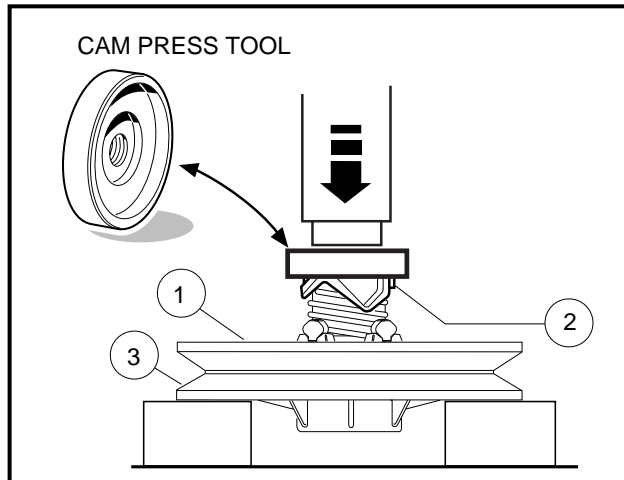

Figure 17-19 Cam Press Tool
2. Slide the moveable face assembly (7) onto the fixed face shaft (8).
3. Place the end of the spring (5) into the hole in the moveable face assembly.
4. Install the key (3) into the keyway of the fixed face assembly (8) shaft.
5. Holding the cam (4) in position for assembly on the shaft, install the other end of the spring (5) into the center spring hole of the cam. Rotate the cam until the keyway is aligned with the key (3) on the fixed face assembly, and then start the cam onto the shaft approximately 1/4 to 3/8 inch (6.3 to 9.5 mm).
6. Place the clutch assembly in a press and position the cam press tool (CCI 101809101) on the cam as shown (**Figure 17-19, Page 17-15**).
7. Hold the fixed face assembly (3) and rotate the moveable face assembly (1) one-third turn **clockwise**, then press the cam (2) onto the fixed face assembly (**Figure 17-19, Page 17-15**).